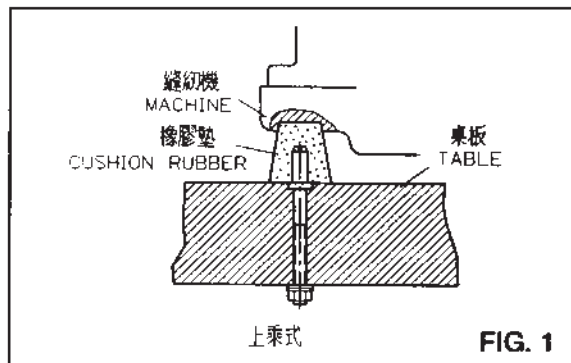

FIG. 1
1. With reference to diagrams for table cutting and mounting parts list, install vibration-reducing base and thread stand in sequence (Fig. 1 & 2)